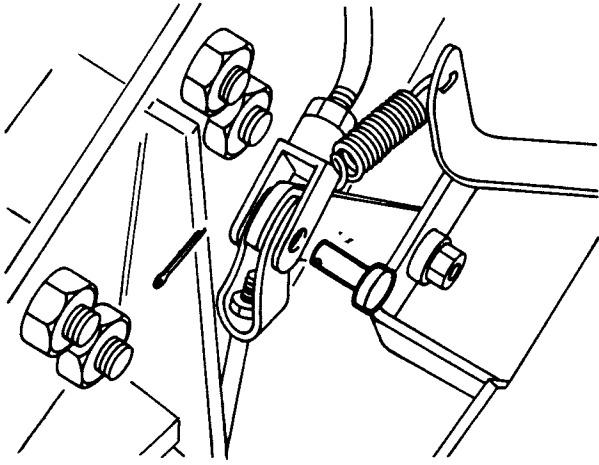

Fig H1.10
(9) Refer to Fig H1.10. Reconnect the handbrake expander rod.